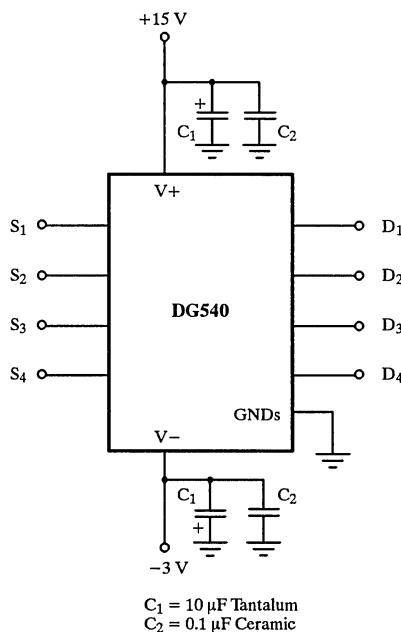

Figure 7. Supply Decoupling
- (1) Decoupling capacitors should be incorporated on all power supply pins ($V+, V-$). (See Figure 7.)
- (2) They should be mounted as close as possible to the device pins.
- (3) Capacitors should have good high frequency characteristics — tantalum bead and/or monolithic ceramic types are adequate.